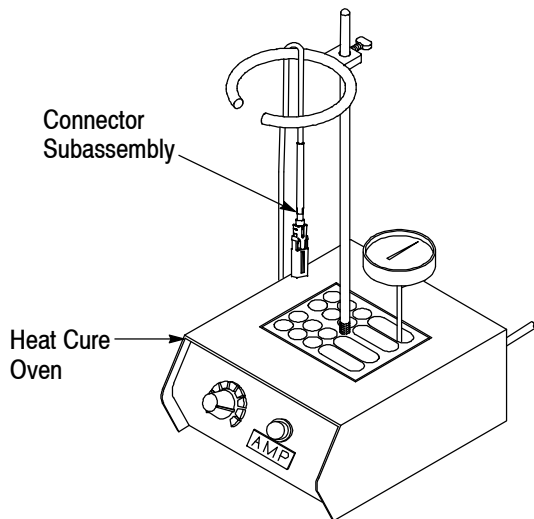

Figure 7
1. Place the connector subassembly in the heat cure oven according to the instructions packaged with the oven. Refer to Figure 7. Cure the epoxy between 115° and 120°C [239° and 257°F] for a minimum of 15 minutes.